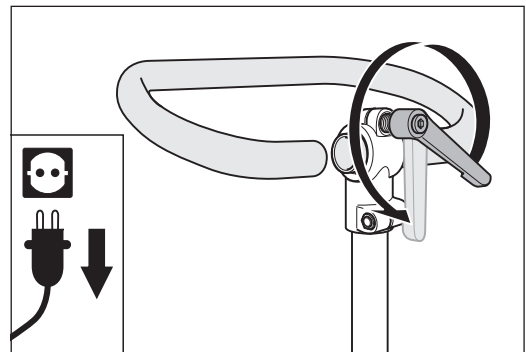

Fig. 16 Undoing the clamping lever on the extension.
- 2 Undo the clamping lever at the upper end of the extension (fig. 16).